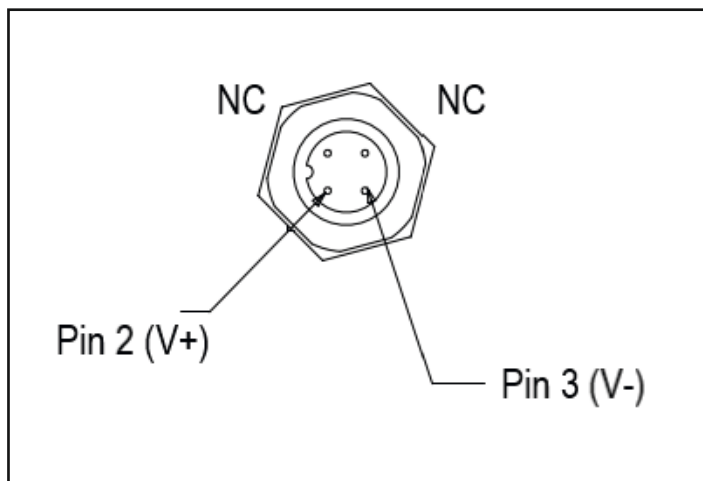

Figure 1-7 Device side view with M12 Power connector
- In and Out M12 threaded female connectors labeled “1” and “2” for Ethernet/IP™ Communications (Figure 1-7).
- 2.5 mm female jack for RS485 diagnostic port located under the access screw on the inlet side of the device, just above the M12 power connection (shown in Figure 1-7).
- 4 pin M12 threaded Male (Euro Lock) Connector for power labeled “PWR” (Figure 1-7).